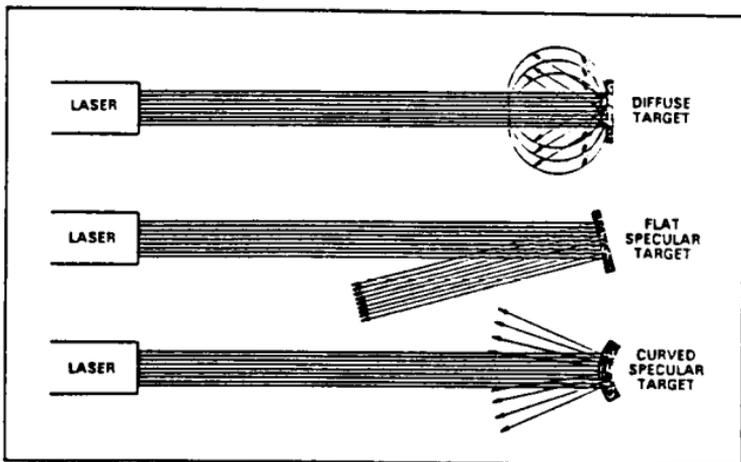

Figure 2. Only Flat, Mirror-Like Surfaces Produce Hazardous Reflections Over Significant Distances
- A mirror-like ("specular") reflection is a significant hazard only if the reflecting surface is flat. Curved surfaces (such as chrome bumpers and wraparound windshields) will spread the beam, and a hazardous condition will only exist within a few meters of these surfaces (Figure 2).